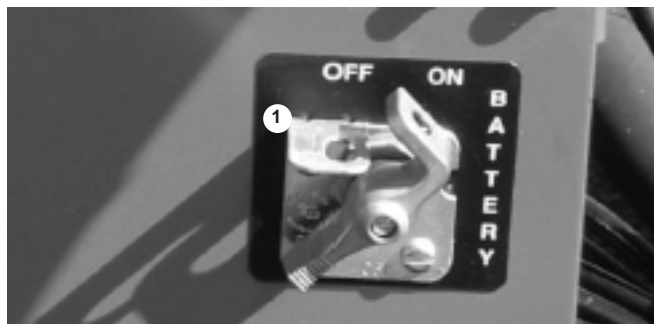

Figure 8.6
1. Set the battery switch (1) to on (see figure 8.6).